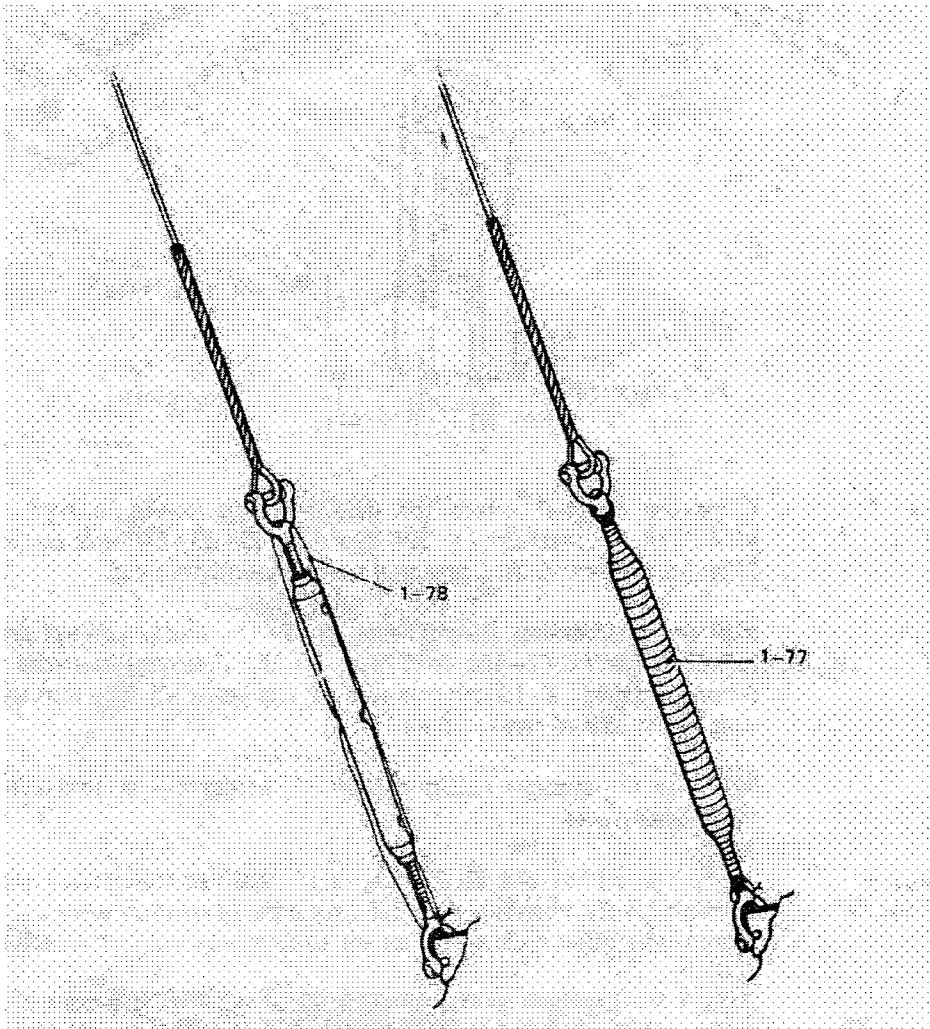

FIGURE 23 – Finishing off the Rigging Screws
Step 6 - Connect the cable from the mast head obstruction light into the fuse unit as shown in the wiring diagram in figure 23, and fit the Varistors as shown.
Step 7 - Connect one end of the longer cable of the remaining two into the fuse unit (see figure 23), and pass the other end through the upper spigot. Do not tighten the gland.
- Step 2 -Wire lock each rigging screw with locking wire (1-78). Grease the exposed threads, inspection holes, and tensioning hole with grease (1-76). Wrap the rigging screws and threads with Denso tape (1-77), see figure 23.